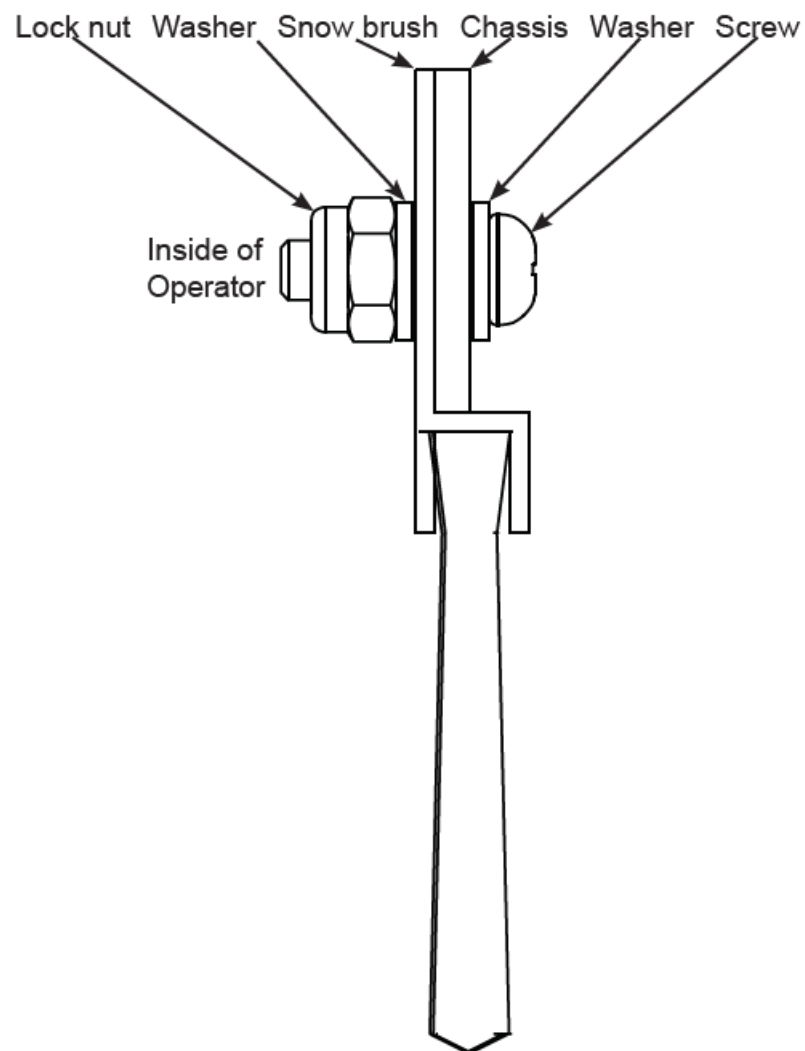

Figure 3. Fasten Snow Brushes
3. Slide the snow brushes into place and secure them using the fasteners provided. The aluminum flange should be inside the operator (Figure 3 and Figure 6).